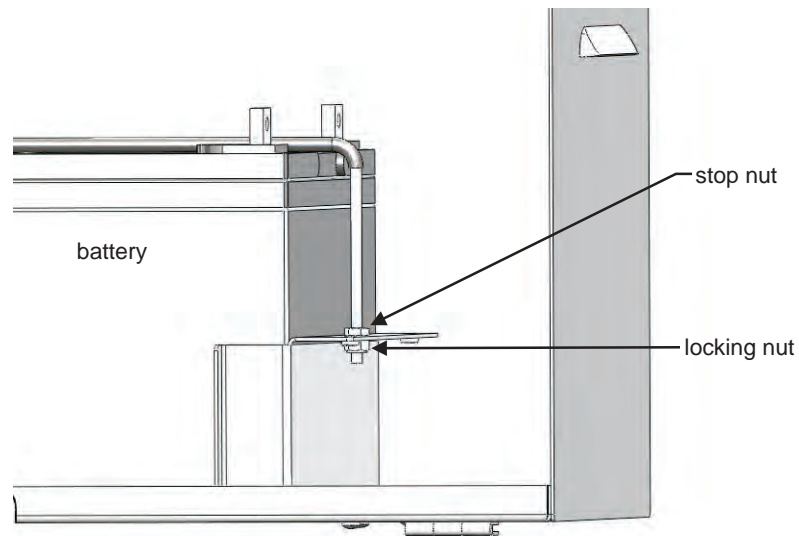

Figure J-8. Fastening Rod Brackets Over Batteries
12. Adjust the two stop nuts downward until they just make contact with the brackets. Refer to Figure J-8.